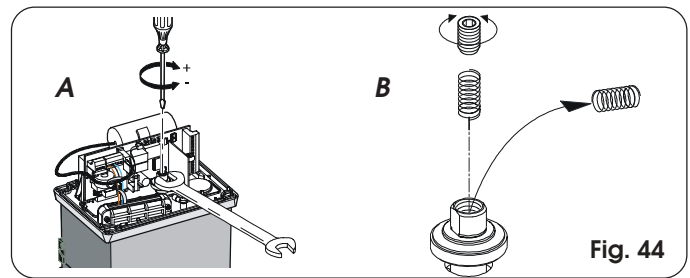

Fig. 44
- Keep the motor shaft locked with a wrench and turn the clutch adjustment screw with an Allen wrench or screwdriver as shown in Fig. 44 Ref 44.
- The operator is supplied as standard with a clutch adjustment spring for gates up to 1000 kg. For heavier gates, use the supplied alternative spring. For spring replacement instructions, see Fig. 44 Ref. B.**